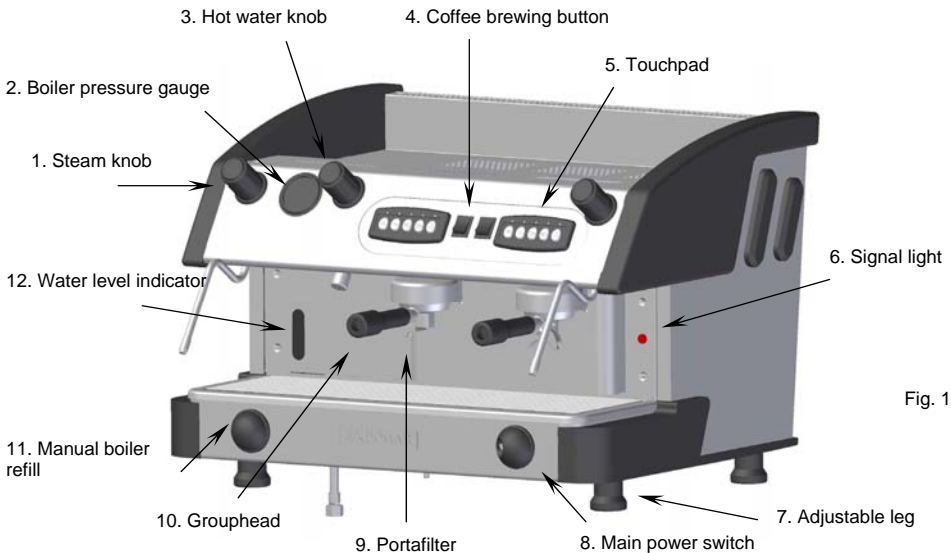

Fig. 1
- The general switch is a knob, -see (8)Fig.1
3. Turn ON the main power switch, -see (8) Fig. 1-.
"The red pilot, -see (6) Fig.1-, shows us the machine is heating-up. Once it turns OFF, it means the machine has reached the ideal temperature".
5. Press the brew switch, -see (4) Fig. 1-, or the control panel, -see (5) Fig. 1-, until water comes out continuously from the groups, -see (10) Fig. 1-.
- d) Insert the filled portafilter into the grouphead and lock it in, -see Fig.5-. Place one cup beneath the spout and turn on the brew switch, -see (5) Fig. 1-.